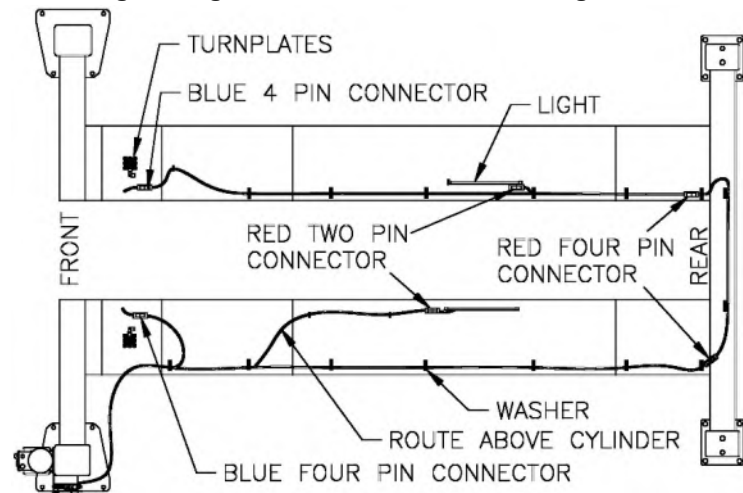

Fig 34- Lights & Locks Electrical Routing
- 71) Plug the Four Pin Electrical Connector on the turn plate light cord into the Blue Four Pin Electrical Connector on the cable at the front for both the idler and power side. See **Fig 34**.
- 73) In the rear of the idler side runway, connect the red connector for the light system coming from the rear crossbeam to the runway cable. Do the same for the power side runway, see **Fig 34**,